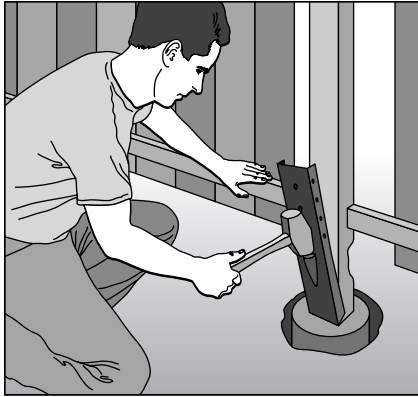

Figure 18-2:
1. Brace the fence with the two-by-four to hold it in a plumb position until the repair can be completed (see Figure 18-2).